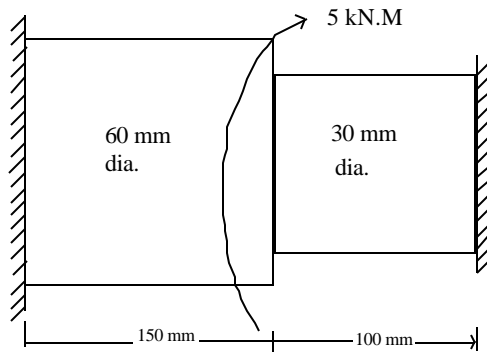

Fig 7(b)
- (b) Determine the angle of twist at the step and the maximum shear stress in each section for the stepped circular bar shown in fig 7(b). take $G = 77 \text{ GPa}$.